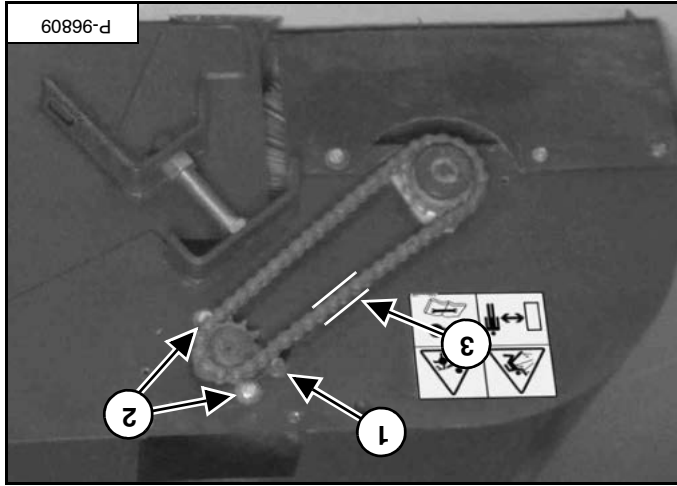

Figure 108
Loosen the motor bolts (item 2) and the adjustment bolt (item 1) [Figure 108].
Move the hydraulic motor until the drive chain (item 3) [Figure 108] has 6 mm (0.25 in) deflection at the middle of the chain.
Tighten motor bolts (item 2) and adjustment bolt (item 1) [Figure 108].